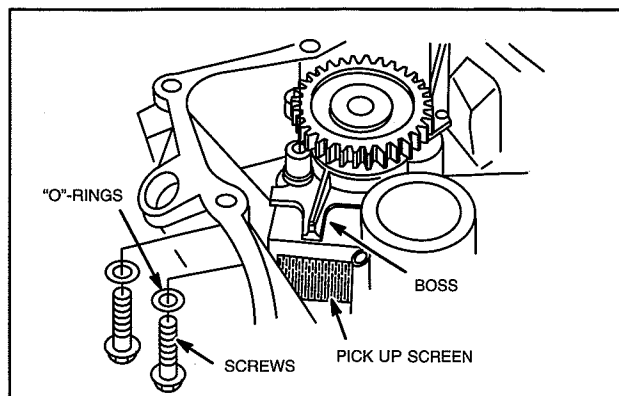

Fig. 28 – Install Oil Pump
2. Assemble oil pump to sump with new “O”-rings, Fig. 28.